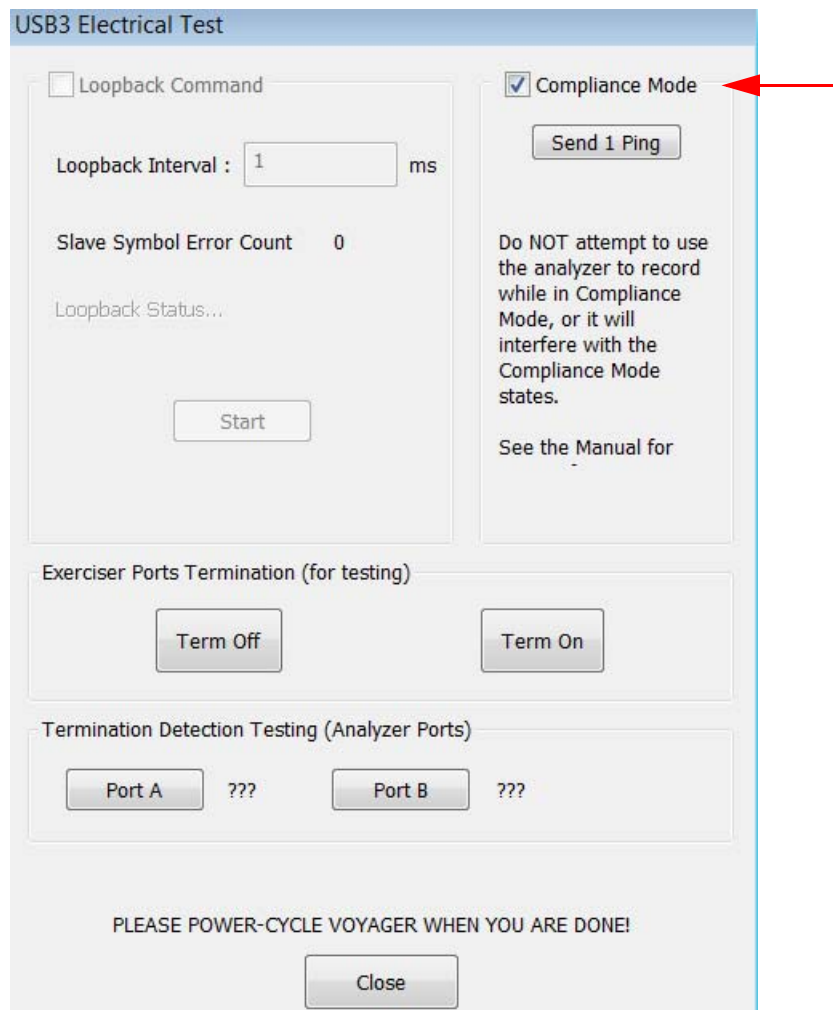

Figure 12.22: USB 3.0 Electrical Test Dialog
4. In the USB 3.0 Electrical Test dialog, check the **Compliance Mode** box (see Figure 12.22 on page 381.)